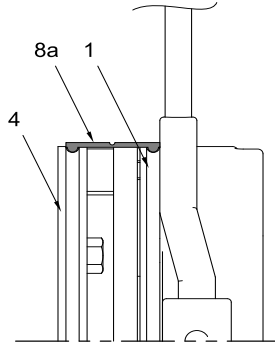

Figure 55 – Brake Seal
- Press the lips of the seal into the grooves into the stator (1) and the mounting flange (4) (see Figure 55).